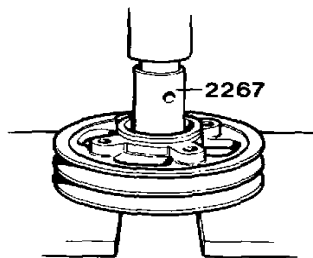

Fig. 189.
5. Pack each new bearing with approx. 4 cm³ (0.24 cu.in.) of grease (part no. 1161121-7). Press the inner bearing into the belt pulley with the encased side downwards (fig. 189).